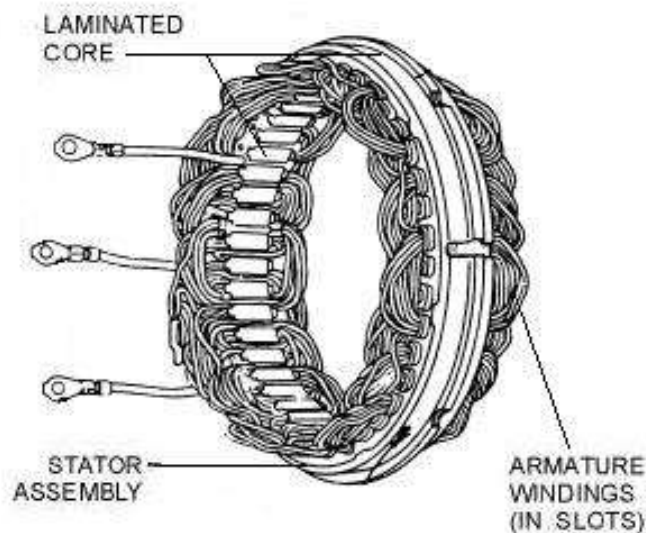

Figure.5.3. Construction of stator core and armature windings.
5.3.3. Armature windings. The alternator armature windings are open. There is no closed path for the armature currents in the winding itself. One end of the winding is joined to neutral point and the other is brought out for a star connected armature. The armature windings used for three phase alternators are single-layer and double-layer winding. The construction detail of armature windings is as shown in the figure 5.3.